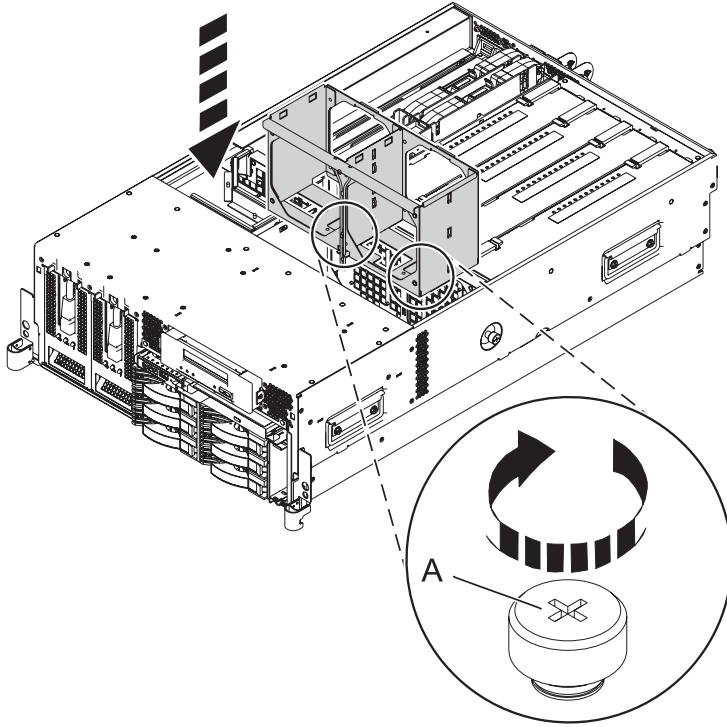

Figure 16. Installing the fan cage
- a. Lower the fan cage (**A**) into its location on the system board, aligning the locator pins through the holes. See Figure 16 on page 21.